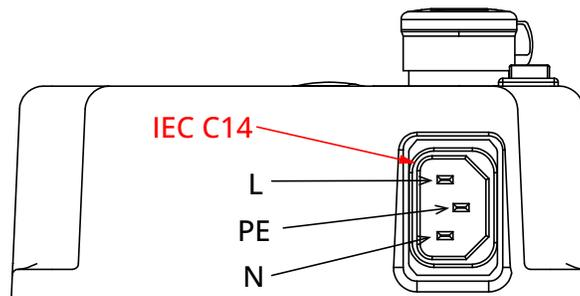

Figure 5: Power supply AC power connector
Figure 5 shows the AC power connector, of type IEC C14, and indicates the Neutral (N), Protective Earth (PE) and Live (L) pins.